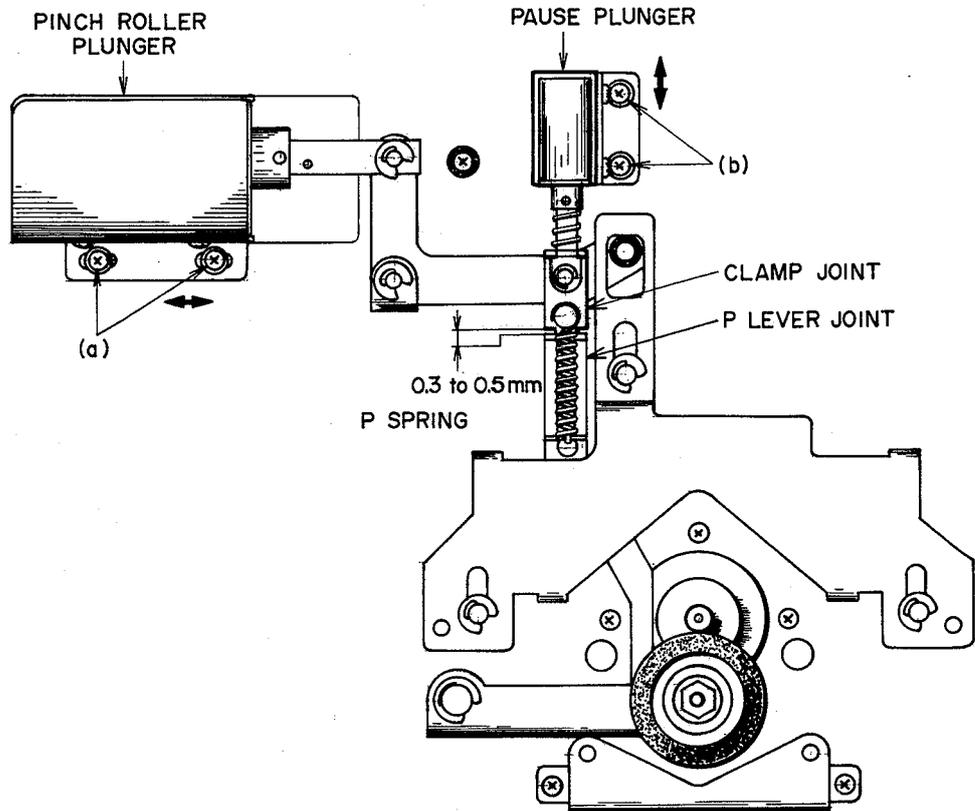

Fig. 11
7. PINCH ROLLER POSITION ADJUSTMENT (Refer to Fig. 11)
8. PAUSE PLUNGER POSITION ADJUSTMENT (Refer to Figs. 11, 12)